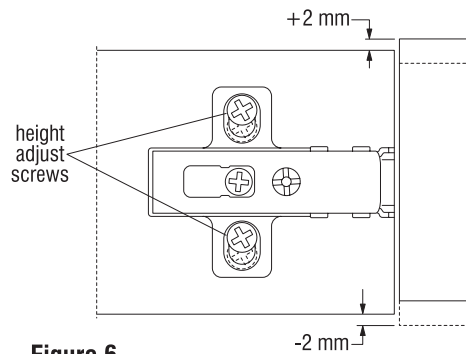

Figure 6
1. For **door height adjustment** of ± 2 mm, loosen the two height adjust screws on each hinge and move door up or down. Retighten screws (Figure 6).